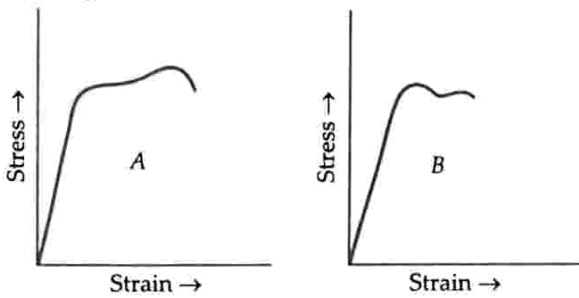

Fig. 9.33
9.3. The stress-strain graphs for materials A and B are shown in Fig. 9.33.